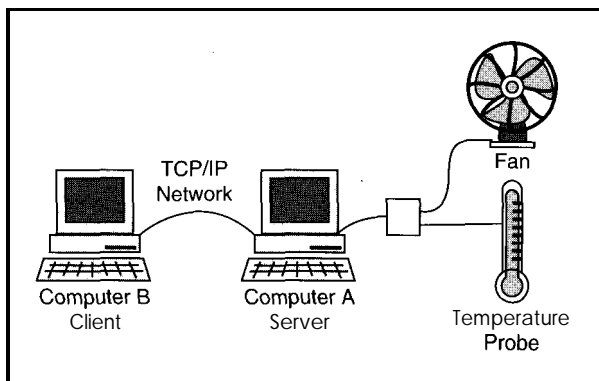

Figure 2: To the simple computer in Figure 1, I added a second computer and TCP/IP network.
To make things more interesting and useful, I'll expand the system as shown in Figure 2. All I'm adding is a second computer and a TCP/IP network.
**listing 2: The client code from listing 1 is adapted to the network system shown in Figure 2. The local INP and OUT instructions are replaced with network NET\_INP and NET\_OUT to provide remote access.**